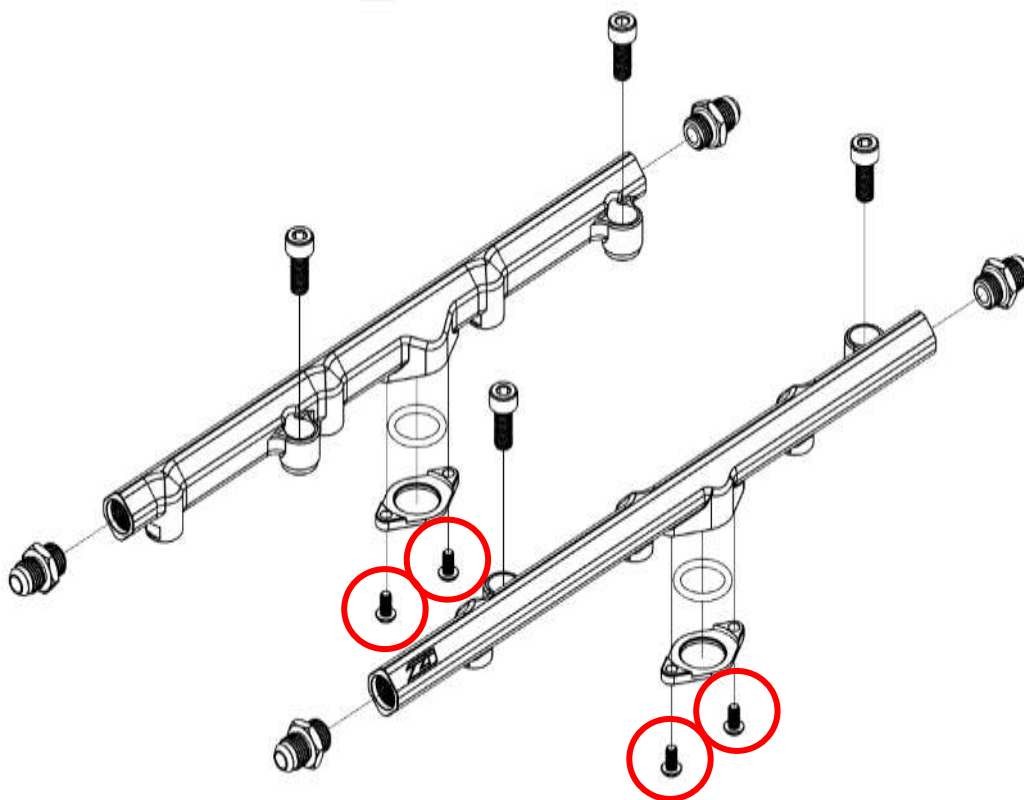

Figure 31
28. Locate the Z1 Fuel Rails and (2) two OE Fuel Pulse Dampers. Remove the (2) two M5 button head screws securing the Damper Retainer to the bottom of the Z1 Fuel Rails, circled below. Install the OE Dampers into the Z1 Fuel Rails with the O-ring in between. Reinstall the retainer and M5 screws. *Figure 31.*